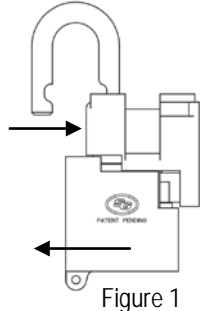

Figure 1
3. Slide the upper case and lower case sections apart, as illustrated at the left in Figure 1. Set the upper case aside.
5. Slide the upper case assembly back on to the lower case (see Figure 1).